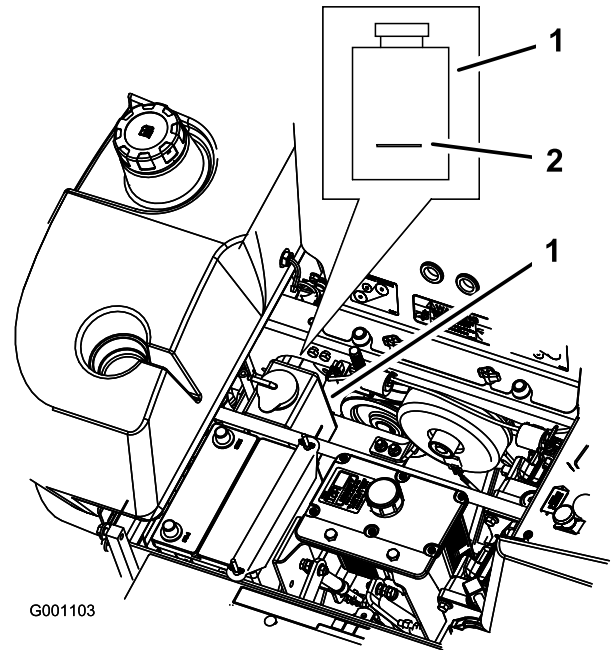

Figure 64
3. With the engine cool, check the overflow bottle level. The fluid needs to be up to the bump on the outside of the overflow bottle (Figure 64).
4. If the coolant level is low, add a 50/50 mix of extended life antifreeze/Dex-Cool® and water to the overflow bottle (Figure 64).
5. Add the 50/50 coolant mix to the overflow bottle and fill it to the indicator line on the bottle (Figure 64).